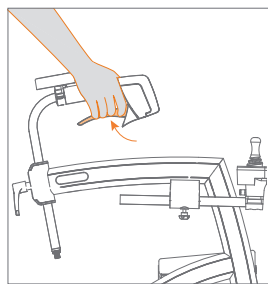

Figure 66: Braking.
- b. Squeeze the brake handles for braking (**Figure 66**).